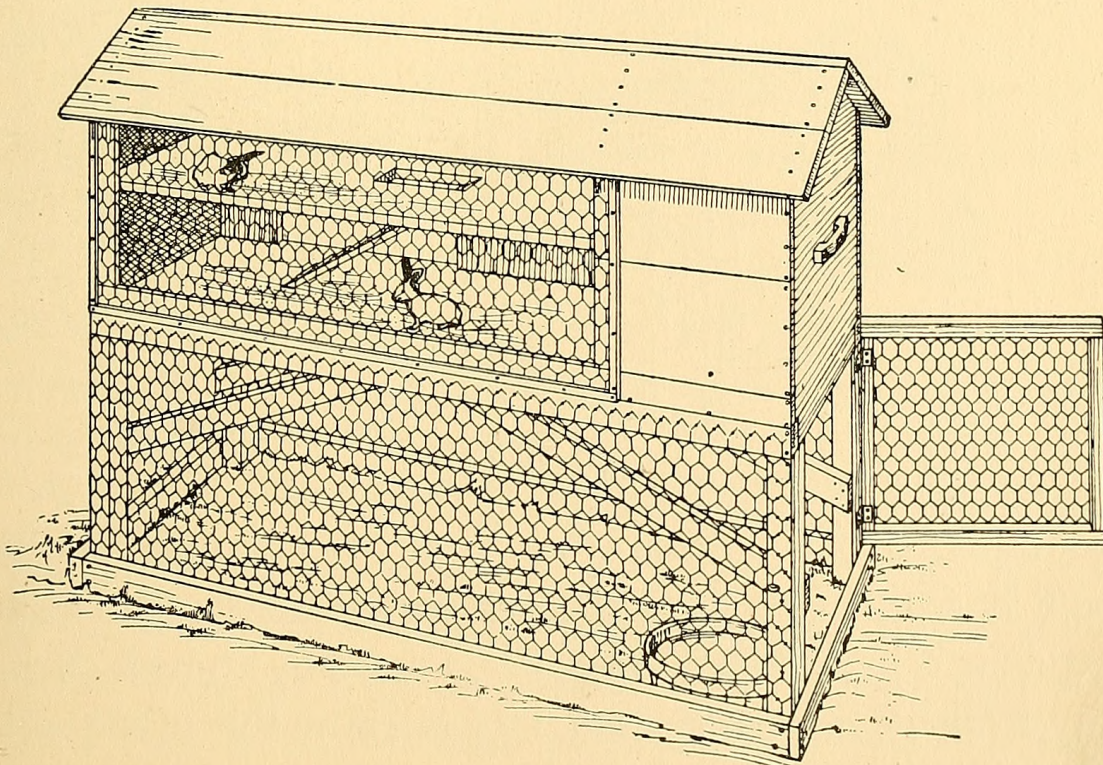
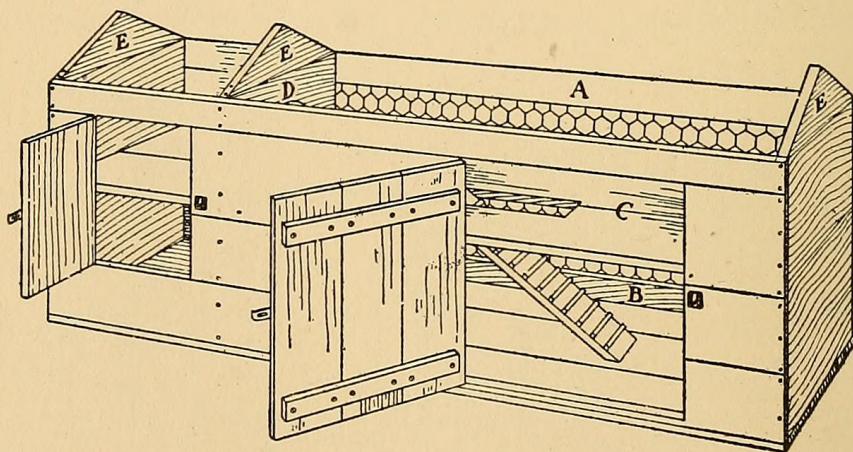

FIG. 498. — A Two-story Rabbit-hutch with Yard Beneath.
FIG. 499. — The Two-story Rabbit-hutch before the Roof has been put On.
**The Two-story Rabbit-hutch** shown in Fig. 498 is made
If you can find a packing-box 18 inches deep, 18 or 20 inches wide, and 4 feet long, use that for the hutch. Remove the boards from one side of the box (which will be the front of the hutch), then rip up two of the boards removed, into pieces 3 or 4 inches wide, and nail these to the front, one at the top of the box (*A*, Fig. 499) and
Cut enough boards of the proper length to make the second-story floor, batten them together upon the under side, and cut a 5-by-10-inch stairway opening about 18 inches from one end, and in the center of the width of the floor; fasten this to the ends and back of the box midway between the top and bottom (*C*, Fig. 499). Then prepare two partitions with an arched doorway about 5 inches wide and 6 inches high cut in each, and fasten one in each story 12 inches away from the compartment end of the hutch (Fig. 499). Cut three triangular pieces and nail one to the top of each end piece of the hutch for gable-ends, and one to the top of partition *D*(*E*, Fig. 499).
Board up the front of the compartments (Fig. 498), and nail a vertical strip of the same width as the top rail *A* and the bottom rail *B* (Fig. 499) to the opposite end of the hutch. Cover the remainder of the front with wire netting or cloth, and tack wooden strips over the edges of the wire to conceal the rough ends (Fig. 498).